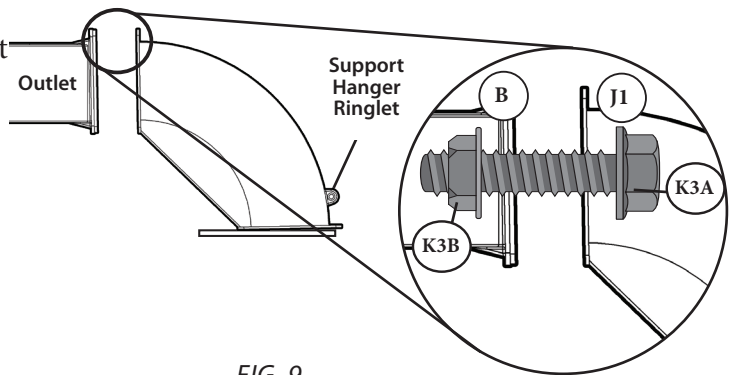

FIG. 9
Secure the Filter Plenum Elbow (J1) to the outlet on the Fan Housing (B) using five Hex Head Bolts (K3A) and five Whiz-Lock Nuts (K3B) [FIG. 9]. Leave bottom left and bottom right holes empty for step 10.